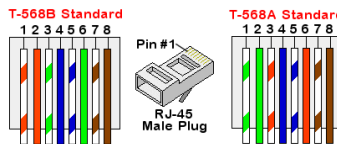

Figure 31: Ethernet connector - pin layout
CAT6 cables have eight wires (four twisted pairs), as shown in the pin layout of the Ethernet connector in *Figure 31*. Wire colors may differ from one cable to another. You can use either wiring standard, as long as both sides of the cable have the same pin-out and color-coding.
- Insert the eight wires into an RJ45 connector, as shown in *Figure 31*.